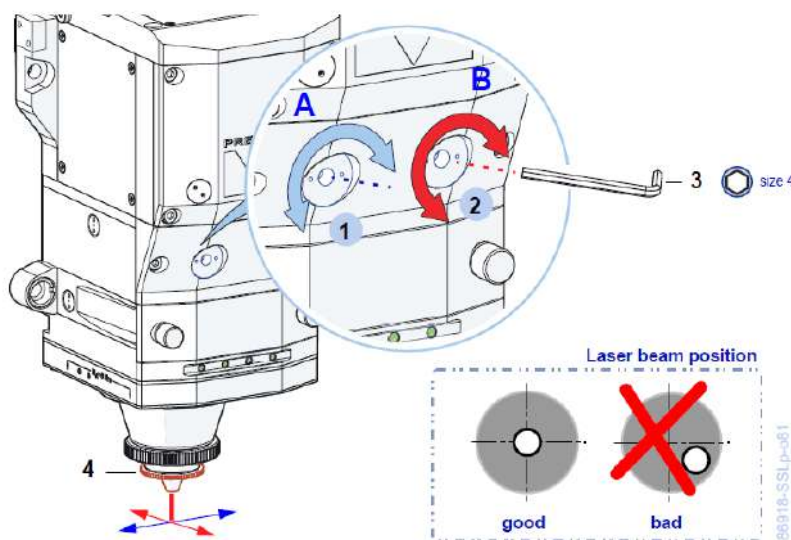
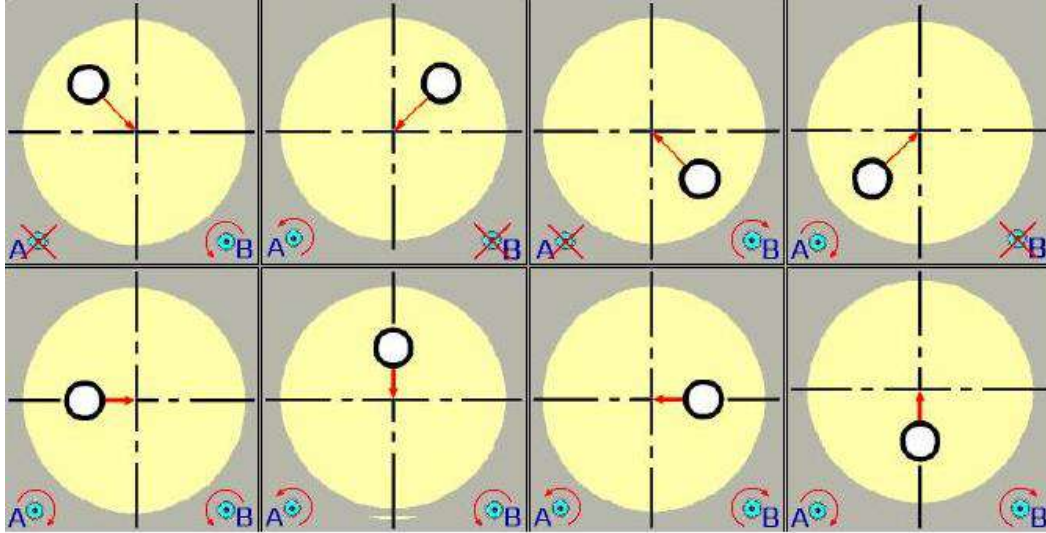

Figure 35
Figure 36
- If the shooting point is not in the center (as **Figure 36**) A or B lens adjustment screws on the head as **Figure 35** must be turned to clockwise or counter clockwise direction by operator depends on where is the position of the point.